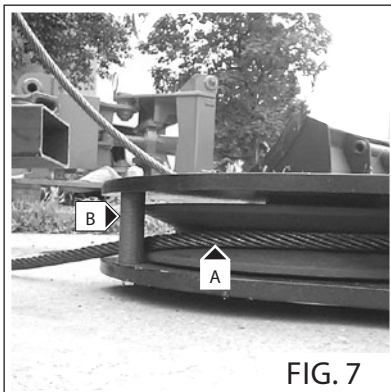

FIG. 7
- Inserire la fune nel bozzello (Fig. 7/8 - Rif. A) (la fune deve passare fra la puleggia ed i due perni (Fig. 7/8 - Rif. B).
- Insert the rope in the block (Fig. 7/8 - Ref. A) (the rope must pass through the pulley and the two pins (Fig. 7/8 - Ref. B).
- Steek de kabel in de takel (Fig.7/8 - Ref.A) (de kabel moet tussen de schijf en de twee pinnen schuiven (Fig.7/8 - Ref.B).